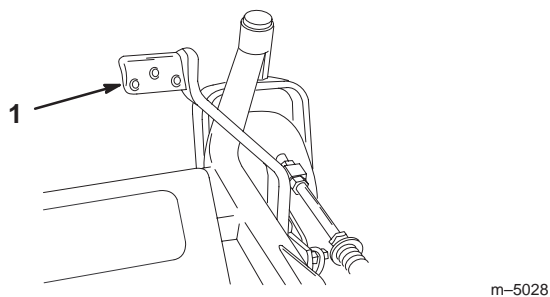

Figure 18
2. Press on the lift assist lever while pulling up on the height-of-cut lever (Fig. 18).